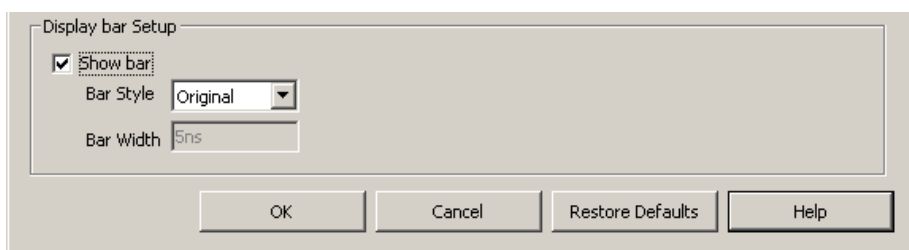

Fig4-148 - Display Bar Setup
1. Click **Show Bar** to know the length of the tested and deleted signal as shown in Fig4-148 below.